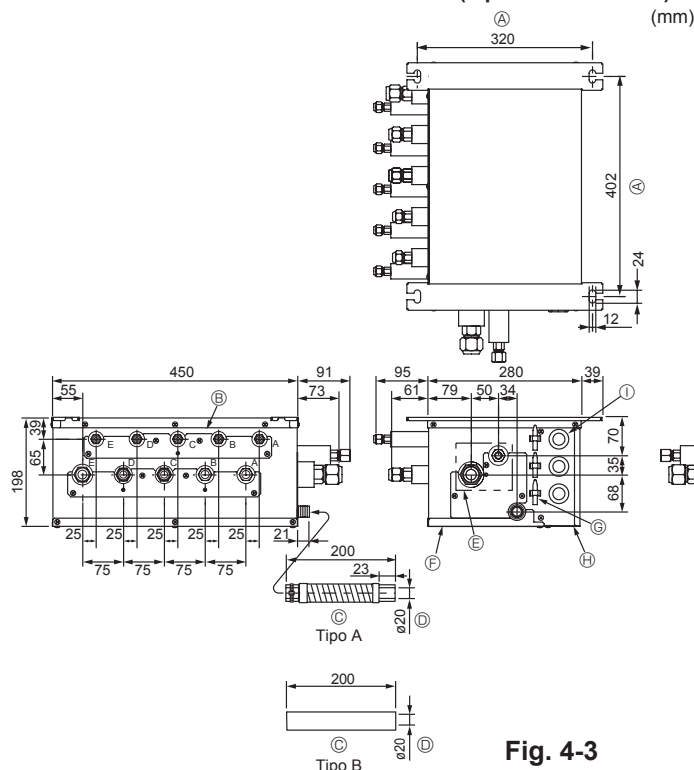

Fig. 4-3
■ PAC-AK51BC/PAC-AK52BC/PAC-AK53BC (Fig.4-3)